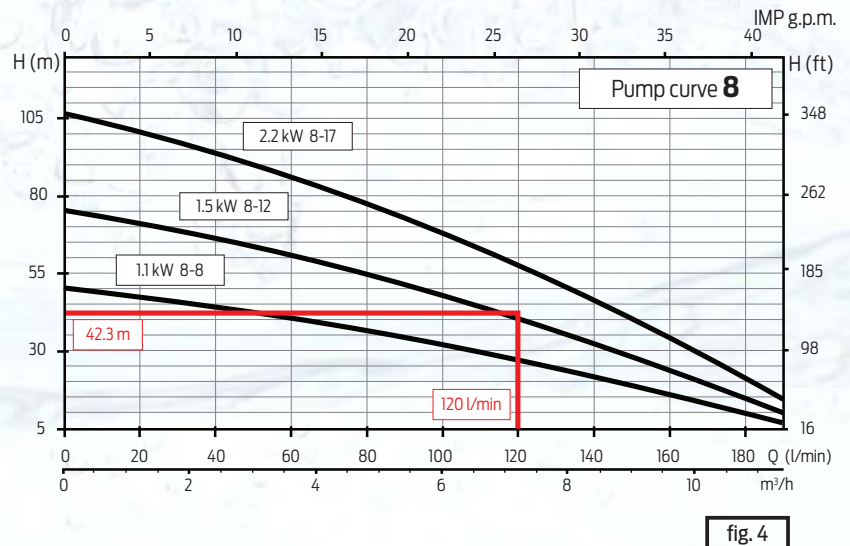

fig. 4
In our example we calculate $H = A + B + C$ where the total height (H) results in 42,3 m (sum of 9+5+25+2,11 + an additional 3% which is 1,23 m given by the prudential factor). To select the pump that will satisfy these hydraulic performances you have to evaluate the curves, depending on the required delivery. In this specific example we need 120 l/min of water and series 8 meets this requirement of delivery at the best efficiency point (fig. 4). Among the pumps from series 8, model 8-12 of 1.5 kW meets the requirement of H = 42,3 m.